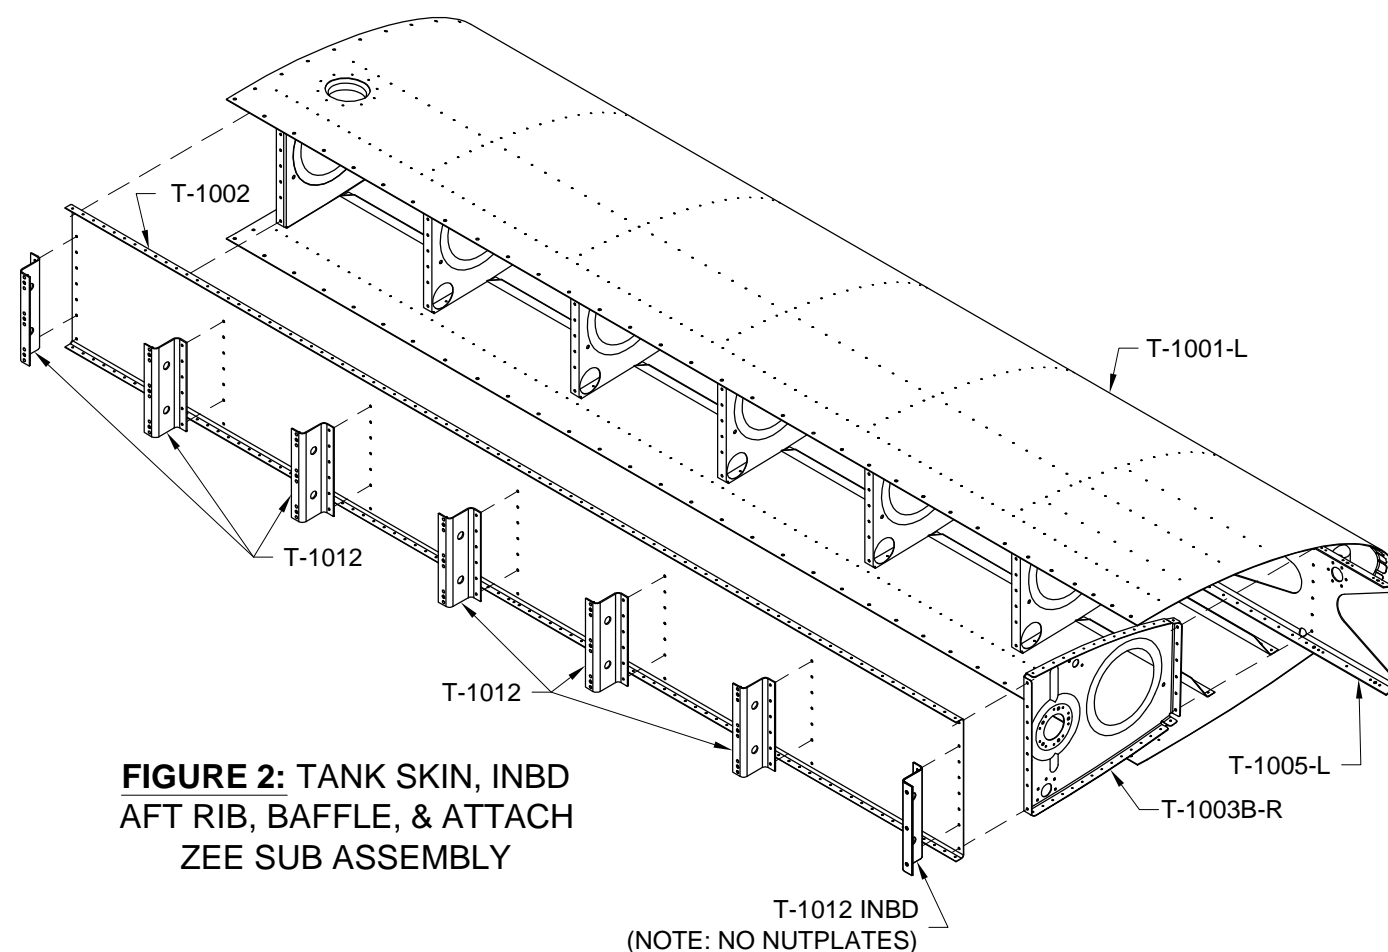

FIGURE 2: TANK SKIN, INBD AFT RIB, BAFFLE, & ATTACH ZEE SUB ASSEMBLY
Step 3: Cleco the T-1002 Tank Baffle and T-1012 Tank Attach Zee's to the tank rib aft flanges as shown in Figure 2.